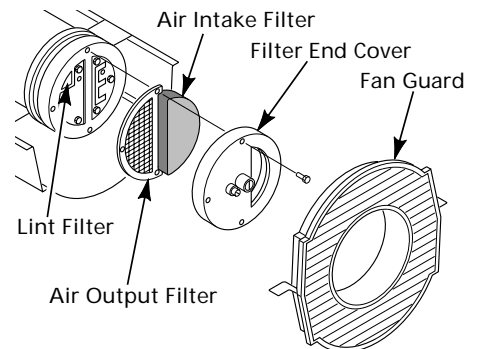

Figure 10 - Air Output, Air Intake, and Lint Filters, Models 2E510E and 2E511E
2. Remove filter end cover screws using 5/16" nut-driver (See Figures 10 and 11).